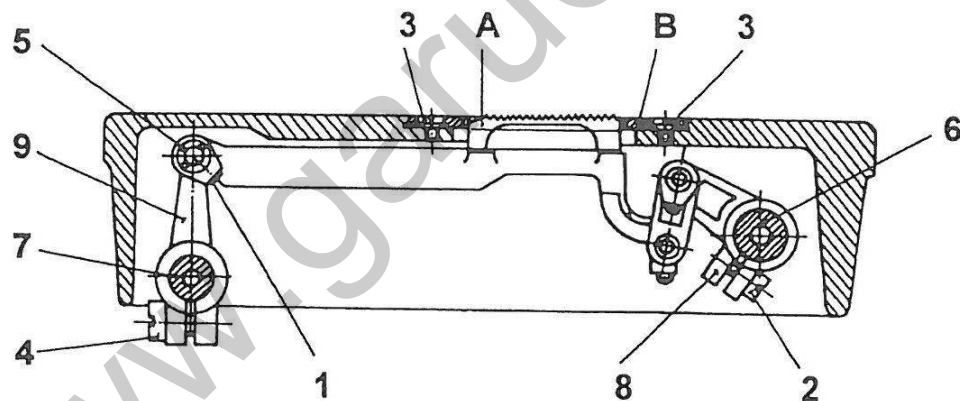

Fig. 8
### 4. To adjust the feed-dog height above the throat plate (Fig. 8)
### 6. To adjust the throat plate (Fig. 8)
**11. To adjust the elliptical path of the feed-dog movement (Fig. 8)**